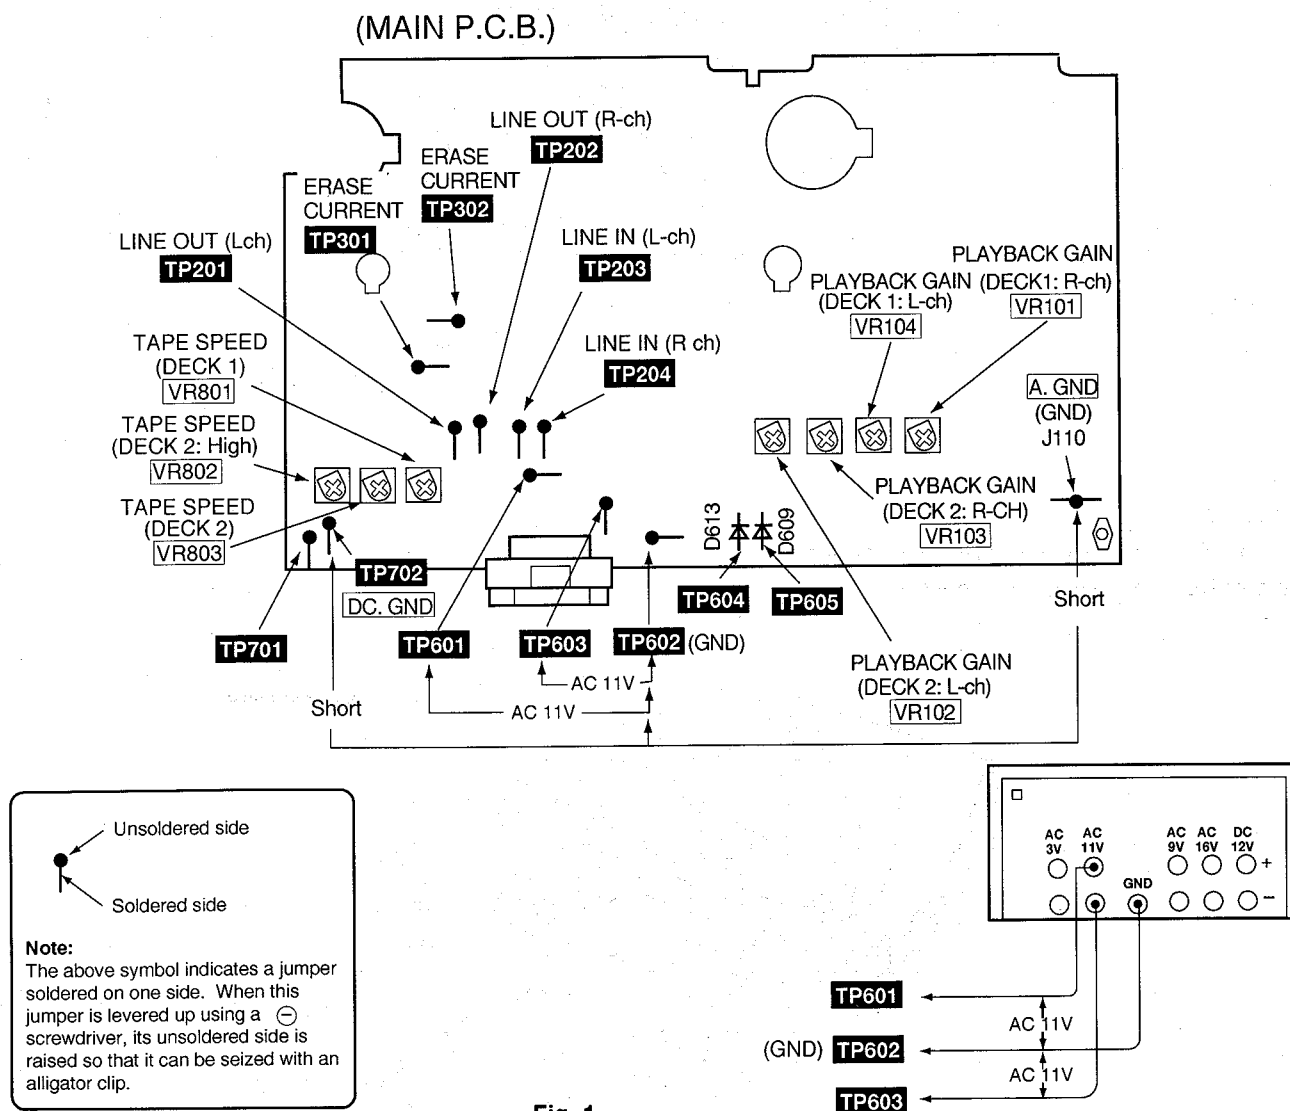

Fig. 1
3. Adjust Deck1=VR801 and Deck 2= VR803 for the output value shown below. (Refer to Fig. 1)
7. Adjust VR802 so that the output frequency of DECK 2 is within ± 30 Hz for the value of the output frequency of DECK 1. (Refer to Fig. 1)
3. Adjust DECK 2: VR102 (L-ch) [VR103 (R-ch)] and DECK 1: VR104 (L-ch) [VR101 (R-ch)] so that the output is within the standard value. (Refer to Fig. 1).